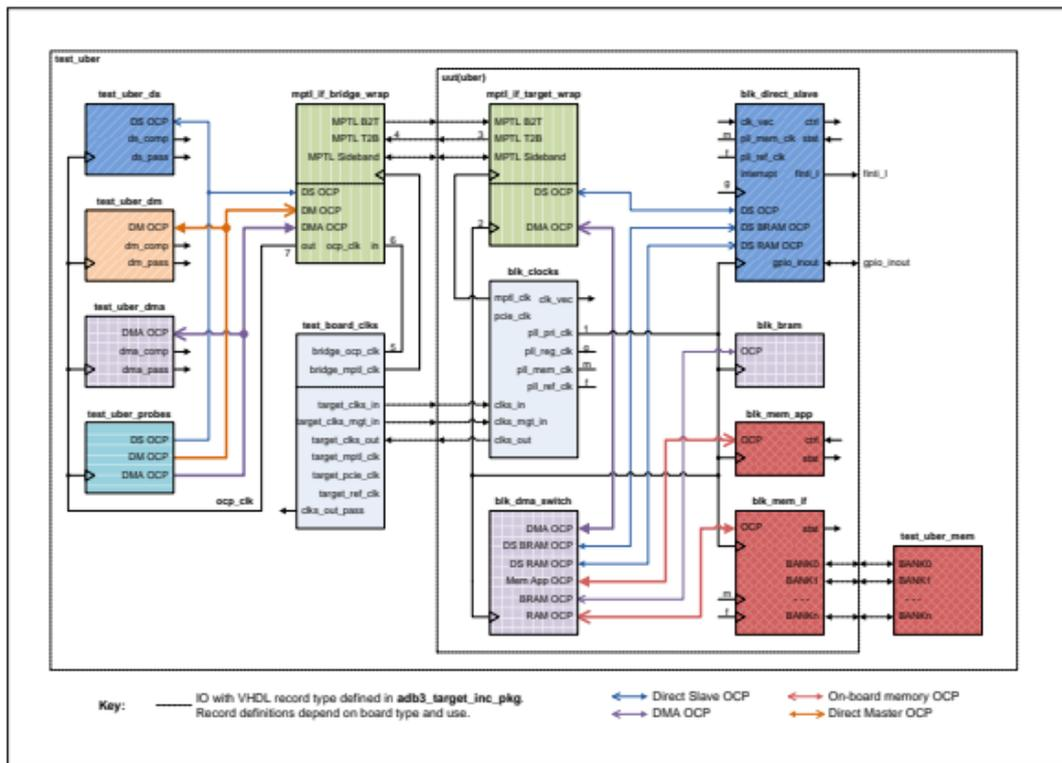

Figure 23: Uber Design Testbench and Top Level Block Diagram (MPTL)
Figure 23 shows the testbench and main elements of the **uber** FPGA design using MPTL interface IP.
- The testbench OCP clock `ocr_clk_out` path is shown in Figure 23 as the route consisting of points 1, 2, 3, 4 and 7.
- The testbench OCP clock `ocp_clk_out` path is shown in Figure 23 as the route consisting of points 5, 6 and 7.